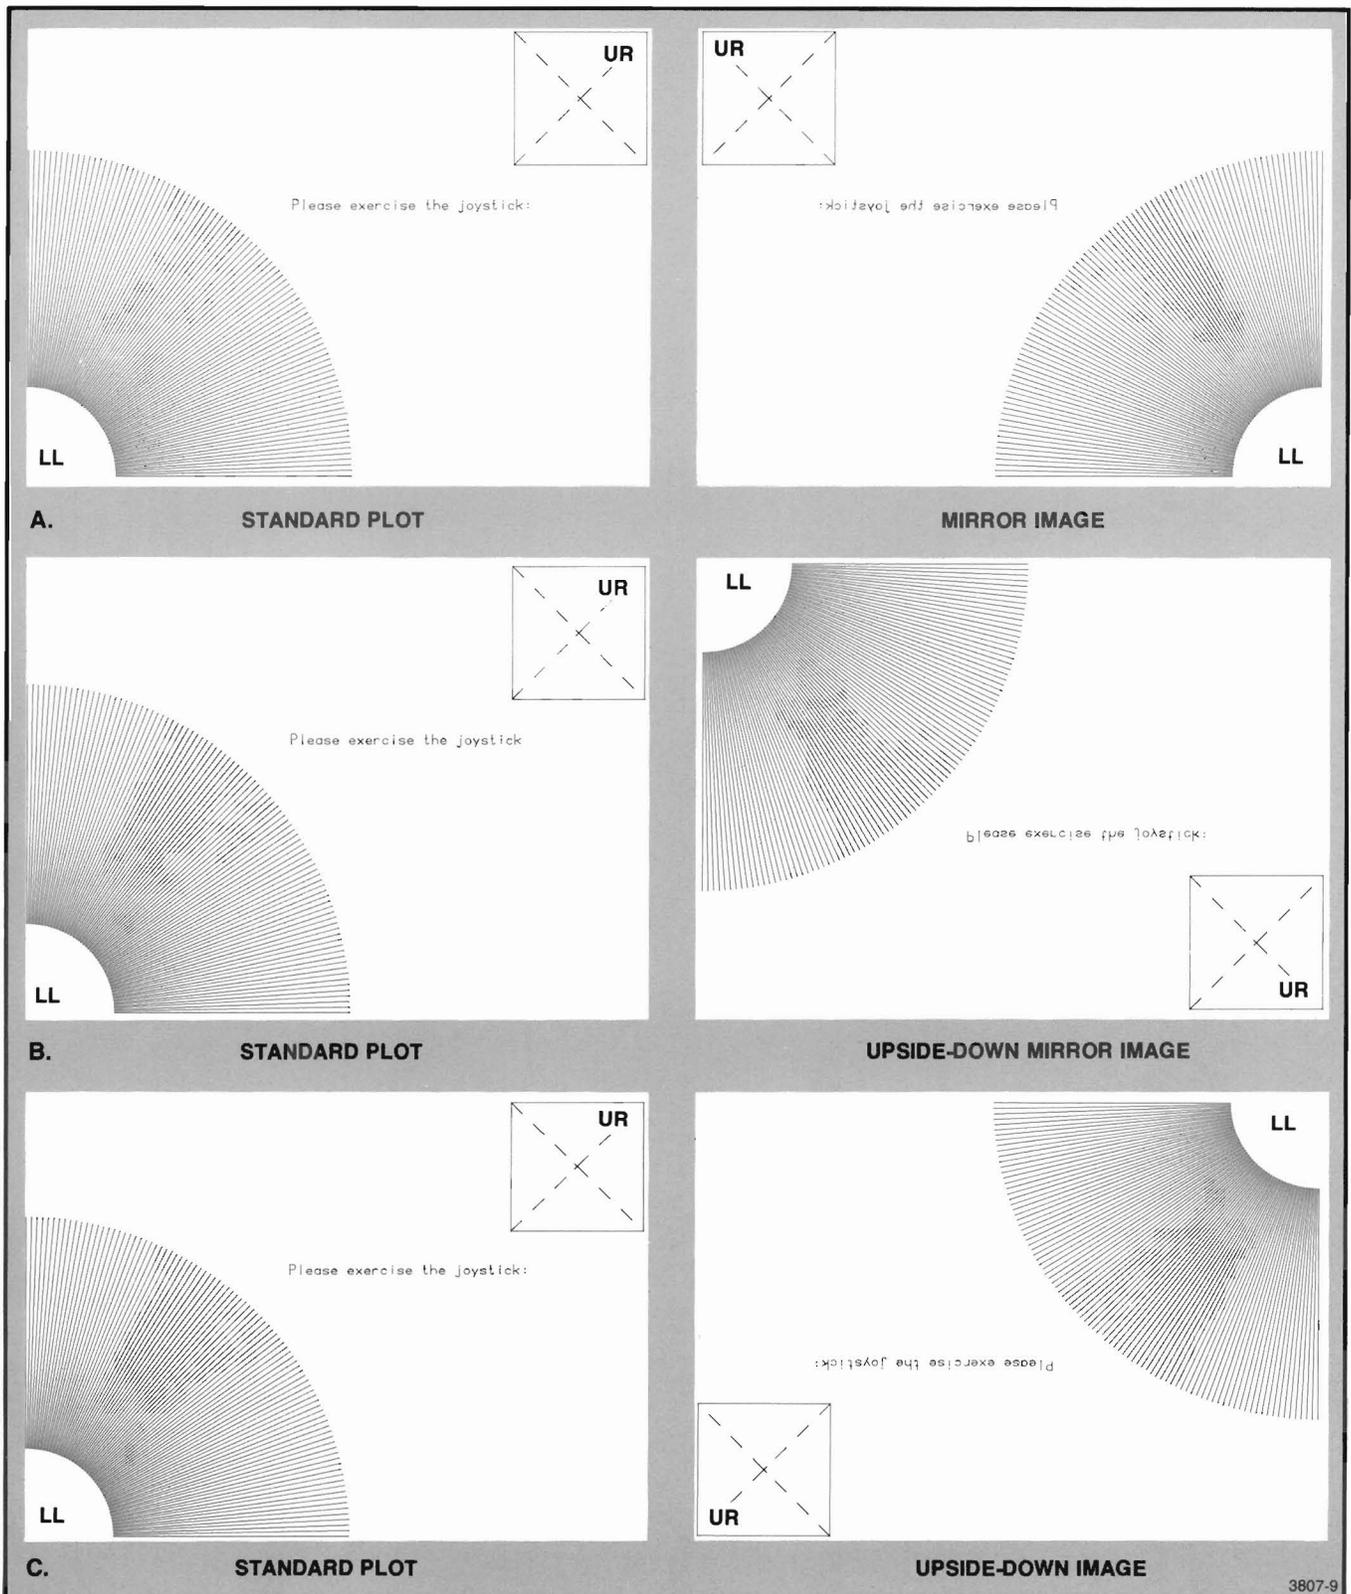

Figure 2-9. Mirror, Upside-Down Mirror, and Upside-Down Image Plots.
The Plotter can be set to orient the plotting area to produce mirror, upside-down mirror, or upside-down image plots. The right column of Figure 2-9 shows an example of each of these features. Compare the placement of the lower-left (LL) and upper-right (UR) corners in the three plots to the standard plots (left column). These features can be useful in preparing plots for mirror or projection transparencies.